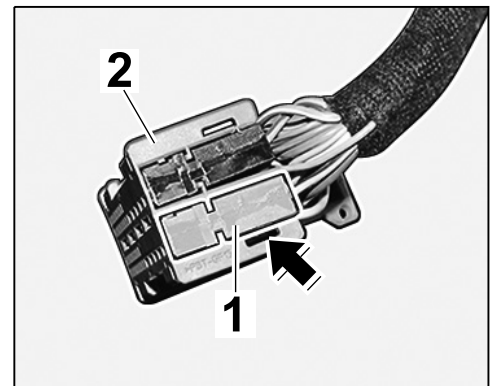

Figure 22
- 2.3.7 Slide grey plug socket ⇒ *Figure 22-1-* into the plug carrier ⇒ *Figure 22-2-* until the locking mechanism ⇒ *Figure 22-arrow-* engages.